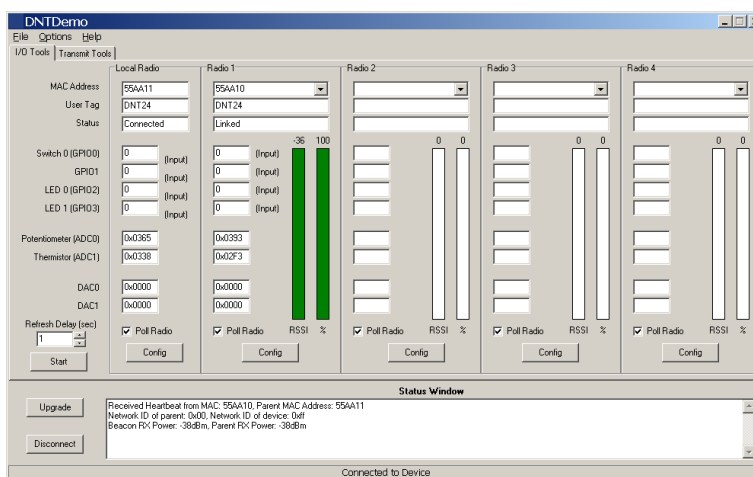

Figure 7
10. The Demo will display data on the Remote in the Radio 1 column, including bar graphs of RSSI (signal strength) and percent packet success rate, as shown in Figure 7. Adjusting the pot on the Remote can be observed in the Potentiometer (ADC0) data. You can change the Refresh setting from the drop down menu at the bottom left. Adjusting the pot on the base can be observed in the Potentiometer (ADC0) data in the Local Radio column.